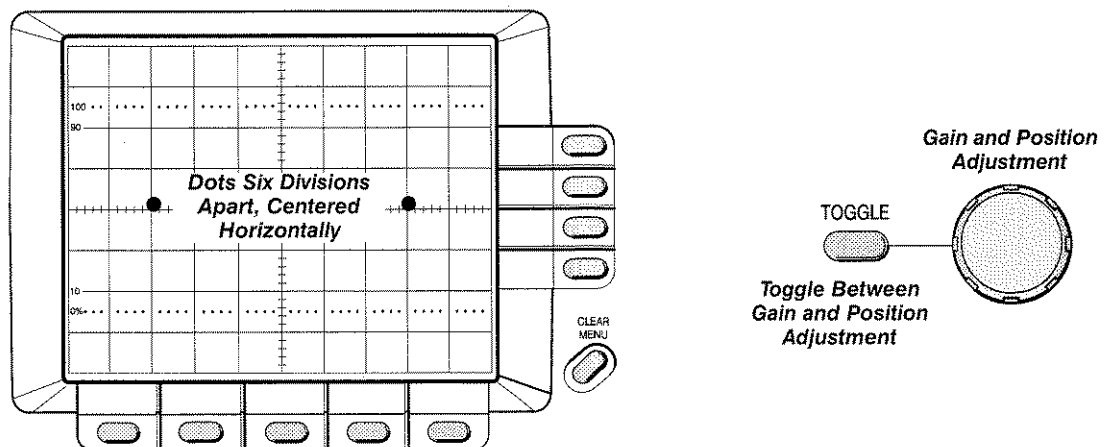

Figure 7-10: Vertical Adjustments
17. Use a combination of the **TOGGLE** button and the General Purpose Knob to position the dots 6 divisions apart, centered horizontally (see Figure 7-10).